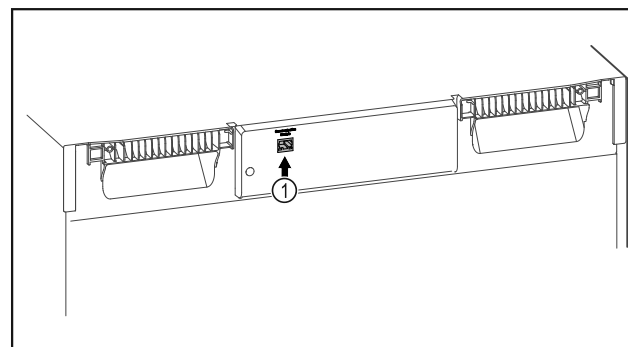

Fig. 114
- ☐ SmartModule Fig. 114 (1) is in use.